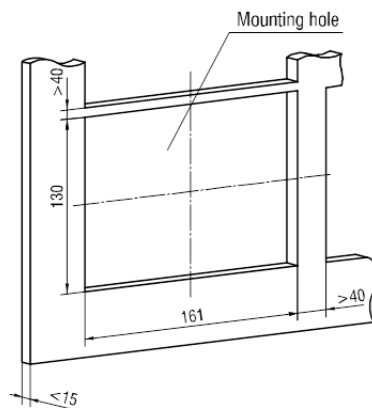

Fig. 2 Mounting cutout
- Prepare the mounting cutout according to Fig. 2